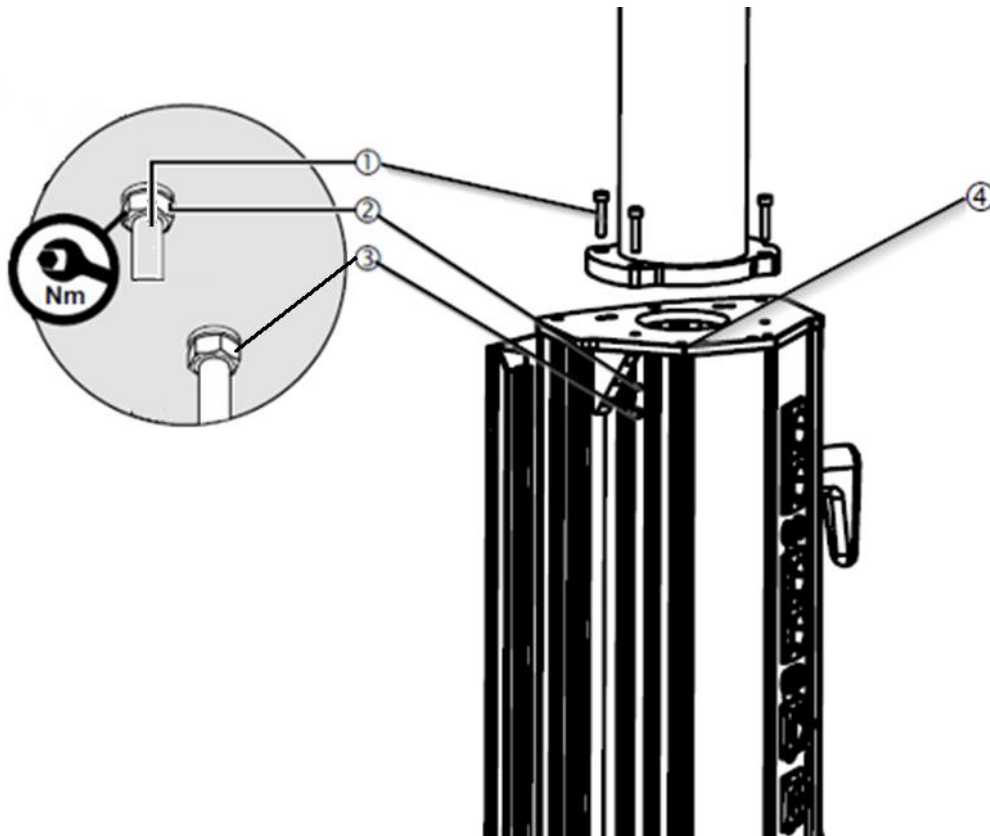

Fig. 20 Mounting the service head on the drop tube.
- Open one of the side covers of the service head ① by removing the M4x16 socket head cap screws ④ at the top and bottom. The side cover can now be opened as shown in figure 20, revealing the inside of the service head.